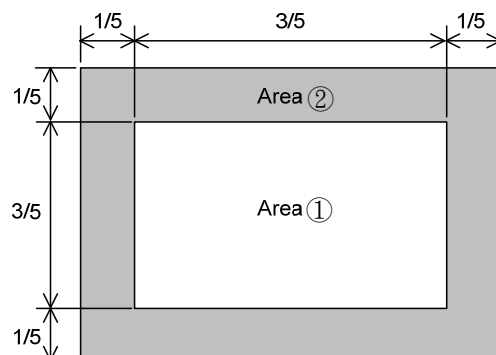

Fig. 11.3
Note 1: The Dot-Defect inspection within A zone (active area) would be divided into area ①, ② as Fig. 11.3 shown.